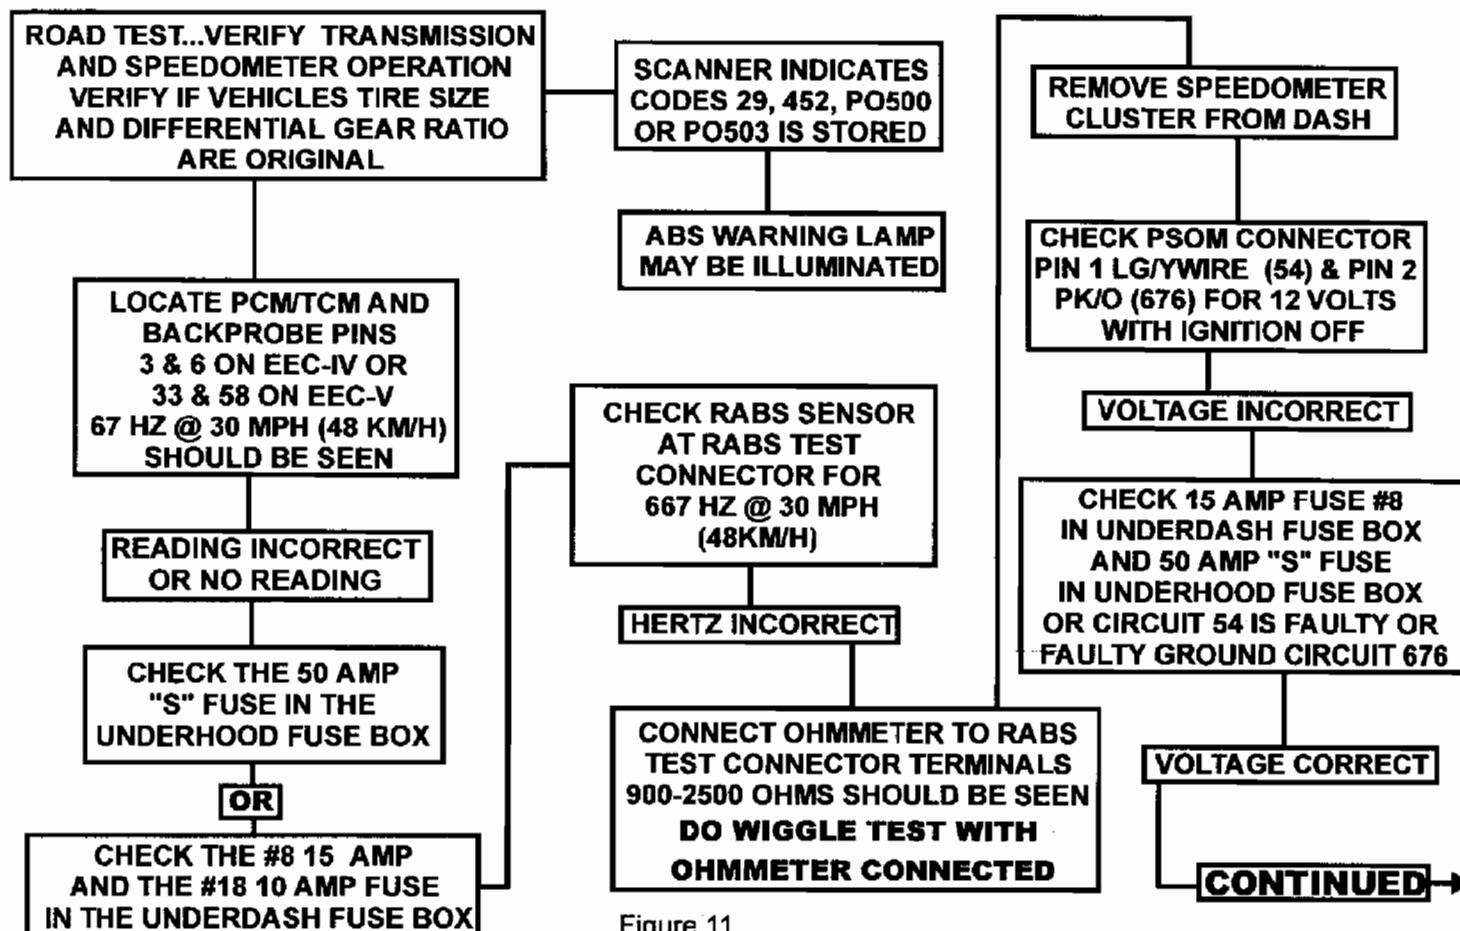

Figure 11
11. A diagnostic tree is provided in figures 11 and 12.